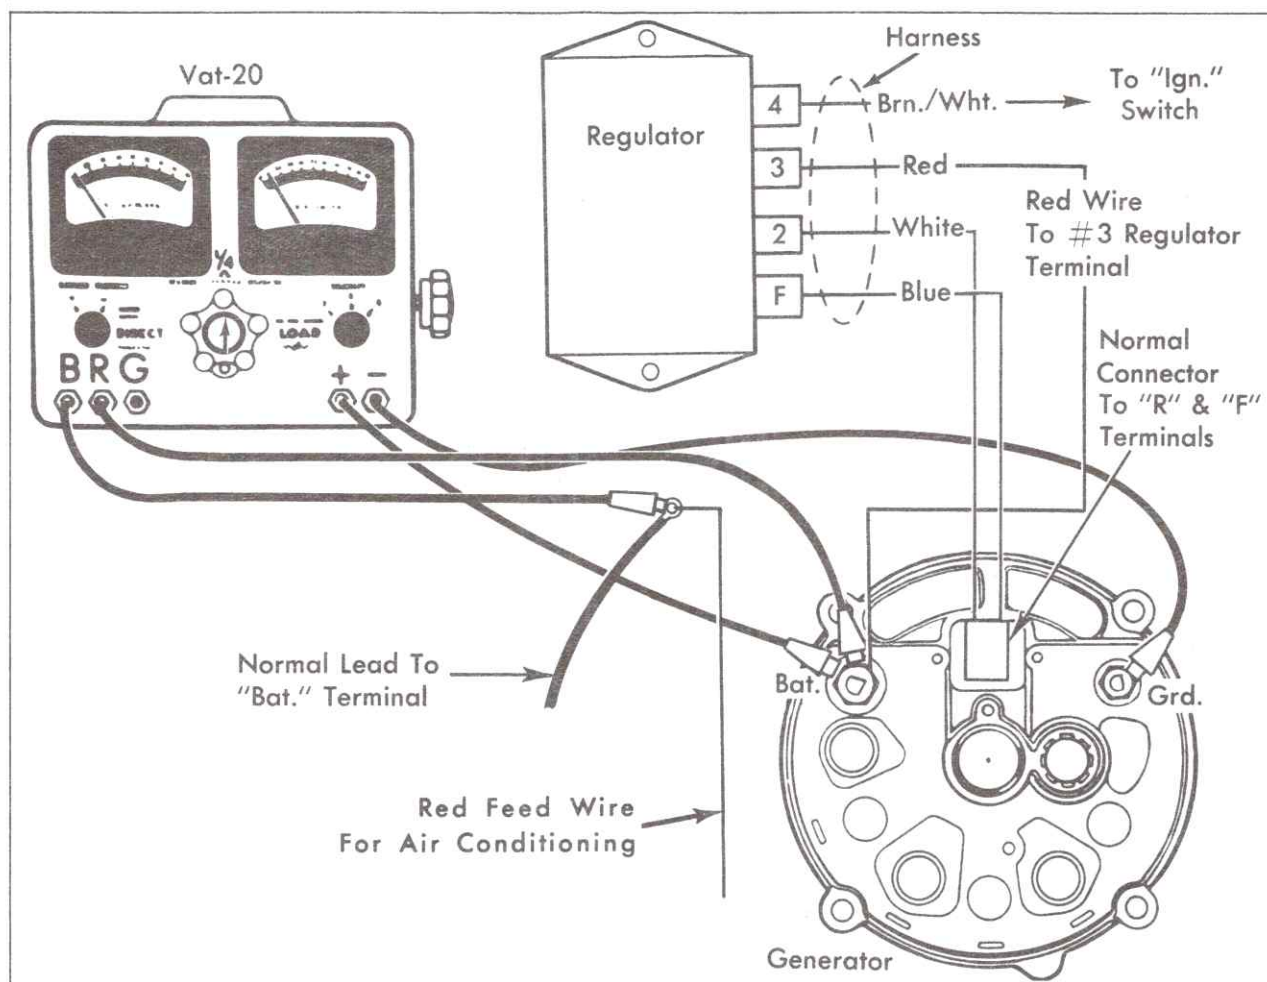

Fig. 6-43 Voltage Regulator Test Leads
3. Connect ammeter between disconnected lead and "BAT" terminal of generator, Fig. 6-43.
terminal of generator and negative lead to ground, Fig. 6-43.
1. With tester lead connection still as in part a, Fig. 6-43, proceed as follows: